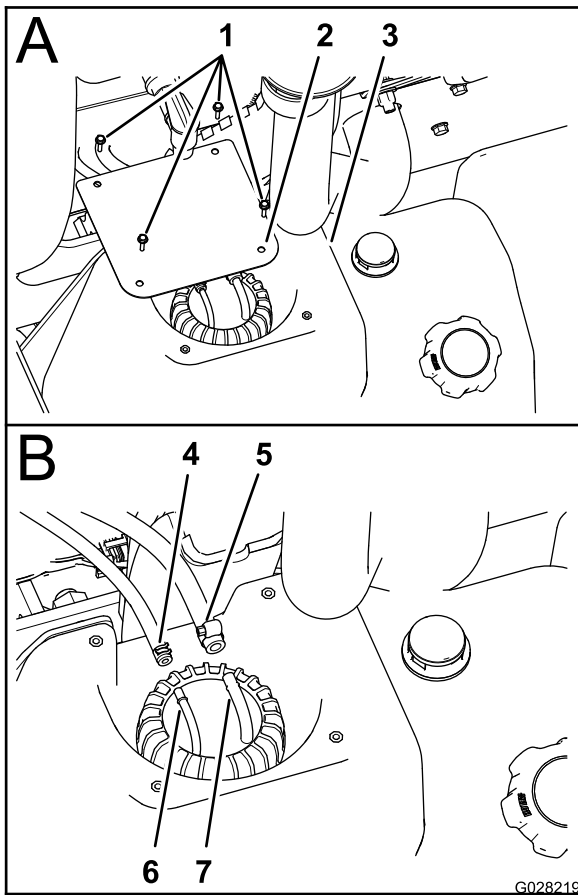

Figure 57
2. At the fuel tank, remove the 4 screws (#10 x 3/4 inch) that secure the cover to the top of the fuel tank, and remove the cover (Figure 57).
3. Loosen the clamps that secure the 2 fuel hoses to the 2 hose fittings at the top of the standpipe assembly (Figure 57).
4. Disconnect the 2 hoses from the hose fittings, and allow any fuel in the hoses to drain into an approved fuel container (Figure 57).
4. Assemble the 6.4 mm (1/4 inch) fuel hose onto the 6.4 mm (1/4 inch) hose fitting, and secure the hose to the fitting with the hose clamp (Figure 57).
hose to the fitting with the hose clamp (Figure 57).